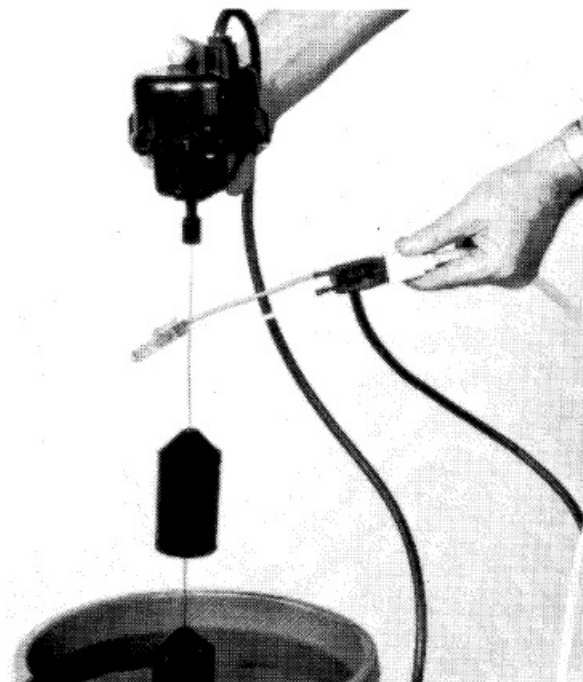

FIG. 17
1. To test 230 volt switches use Neon tester in the blade openings of series plug. See Fig 17.